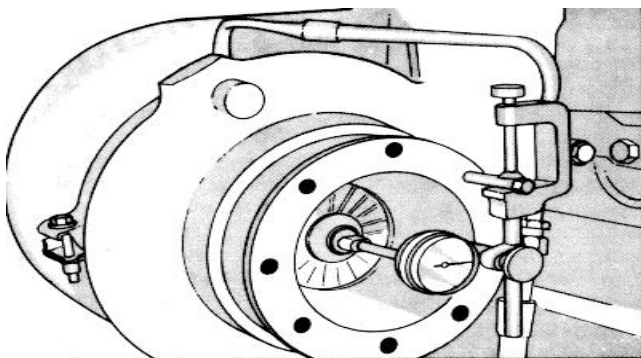

Fig. 2-66, (OM1065L).
Check bearing clearances. This can be done without removing the turbocharger from the engine, by using a dial indicator to indicate the end-play of the rotor shaft and a feeler gauge to indicate the radial clearance. Fig. 2-66.
2. Remove one capscrew from the front plate (compressor wheel end) and replace it with a long capscrew. Attach an indicator to the long capscrew and register the indicator point on the end of the rotor shaft. Push the shaft from end-to-end making note of the total indicator reading. Fig. 2-66. On T-50, ST-50 and VT-50